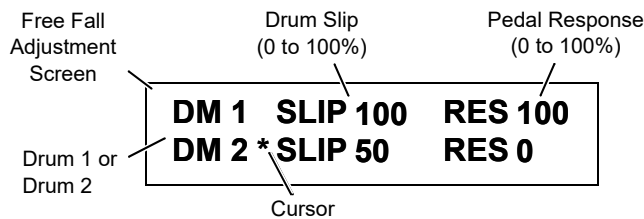

FIGURE 3-19
- b. Scroll up or down through diagnostic screens until free fall adjustment screen appears (Figure 3-19).